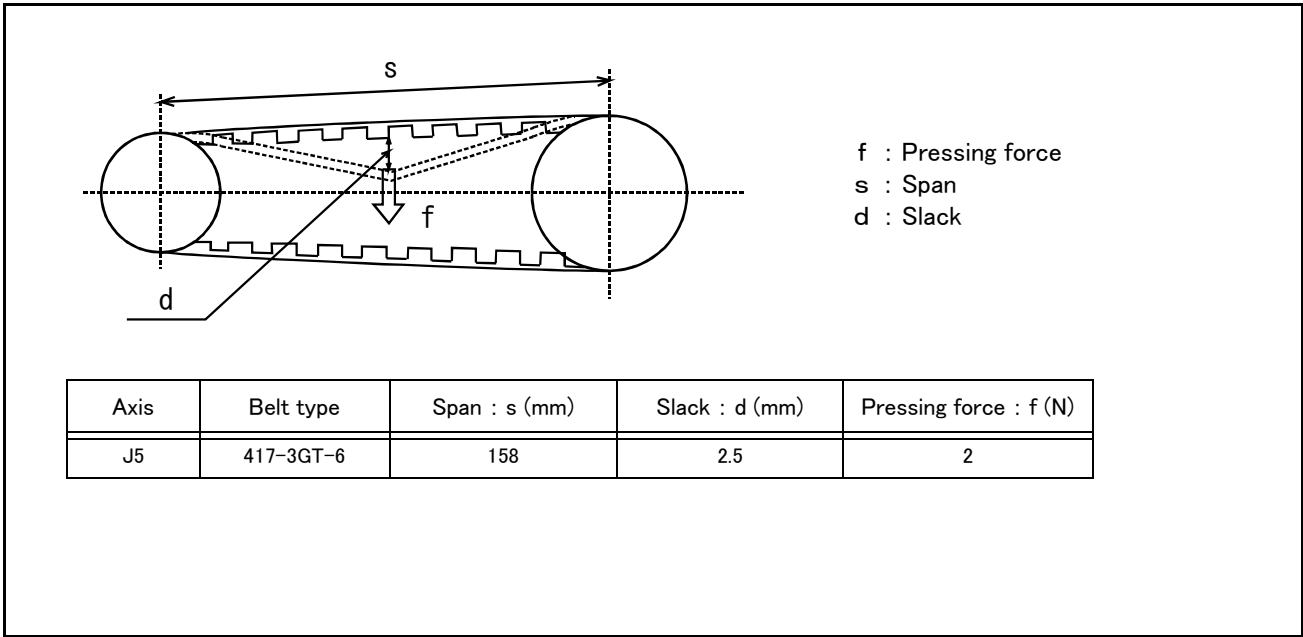

Fig.5-5 : Belt tension
- 4) Confirm that the belt tension is adjusted to slacken approx. 2.5mm when the center of the belt is lightly pressed with a finger (approx. 2N) as shown in "Fig.5-5 : Belt tension".
The timing belt can satisfactorily convey the drive and keep a durable force only when it has an adequate tension. The belt tension should not be too tight or too loose. Instead, it should be adjusted to a degree that elasticity is felt when the belt is pressed with the thumb. If the belt tension is too weak, the belt loosening side will vibrate. On the other hand, if the belt tension is too strong, a sharp sound will be heard and the belt tension side will vibrate. The detailed adjustment (tension) is shown in Fig. 5-5.